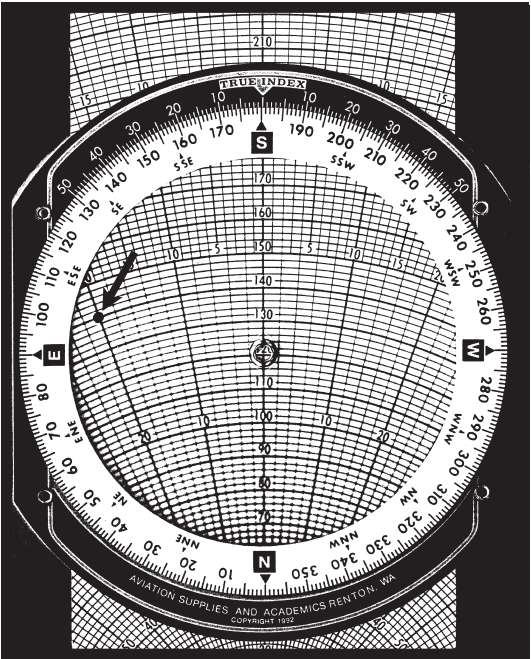

Figure 24
3. With the grommet on the 120-knot ground speed line, find the point on the slide where the 20° left wind correction angle crosses the line marked 140 and make a pencil mark (see Figure 24 on the next page).